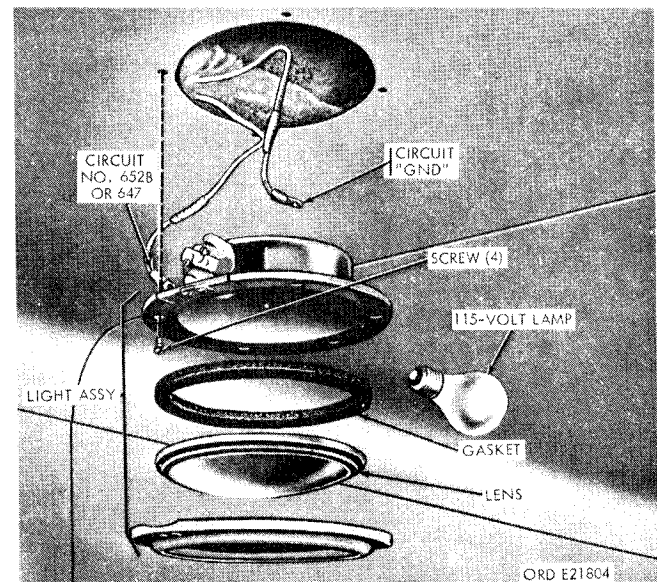

Figure 2-243. Removing emergency and blackout light fixture.
*b. Light fixtures (Fig. 2-243).*